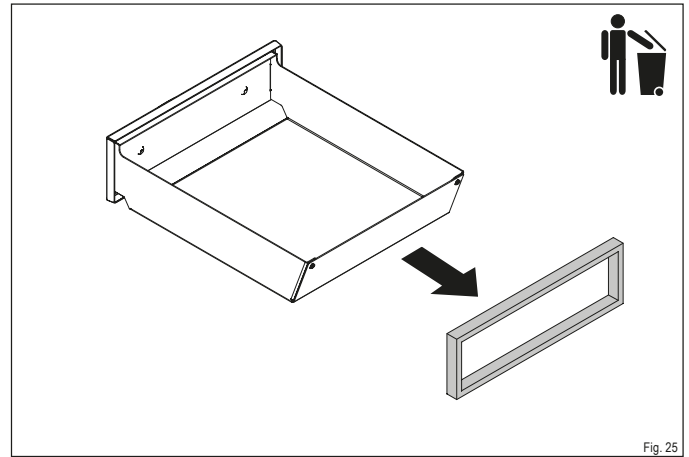

Fig. 25
- ▶ Pull the old seal out of the rail and dispose of it in the waste (Fig. 25).